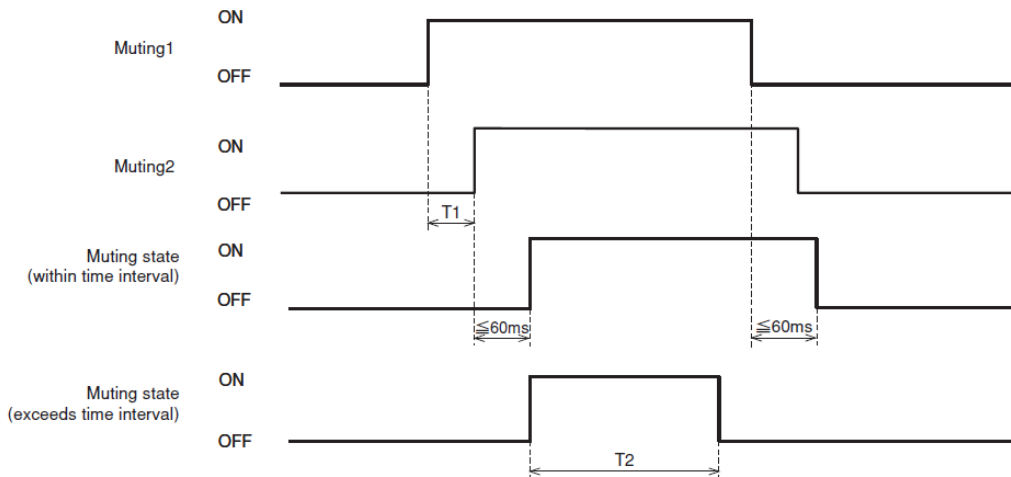

Figure 3-20 Muting sequence
- b) The two independent hard wired muting input signals are switched to ON state in the predefined sequence within the pre-set time interval. However, the switching interval between two input signals should not be 0 (Refer to figure 3-20).
- b) When the predefined (preset) maximum muting time T2 exceeds (1 minute and above) (Figure 3-20).
Figure 3-20 shows the muting sequence.